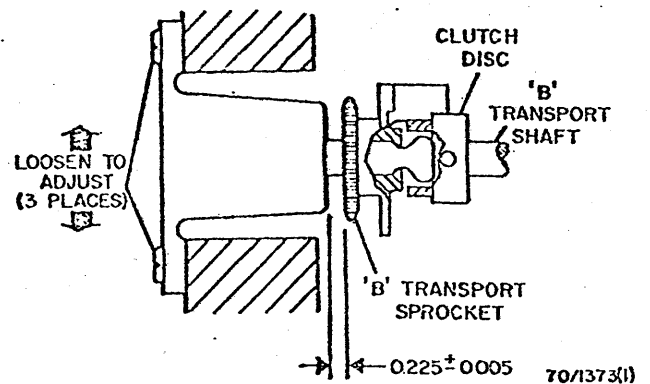

Fig. 3-10. Concentricity of B Transport Sprocket Assembly
1. With the B transport sprocket assembly removed, set the distance between the bearing housing flange and the inside of the sprocket to the proper dimension (Fig. 3-10).